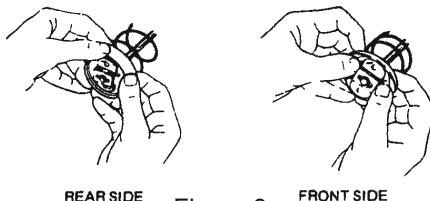

Figure 3
- 1) Visually check the follower seal lip direction before loading a new cartridge. The follower seal lip must be directed toward the follower handle or rear side for cartridge loading. See Fig. 3. To change the direction of the follower seal, unscrew tube cap from grease tube assembly and pull on the handle to remove follower seal from tube. Flip follower seal over and re-assemble.
- 4) Remove the pull tab from grease cartridge and screw grease tube assembly (9) into pump assembly (4).